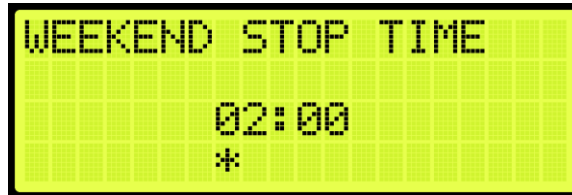

Figure 273: WEEKEND STOP TIME Menu
20. From the WEEKEND STOP TIME menu, set the stop time of the hall call security (See Figure 273).